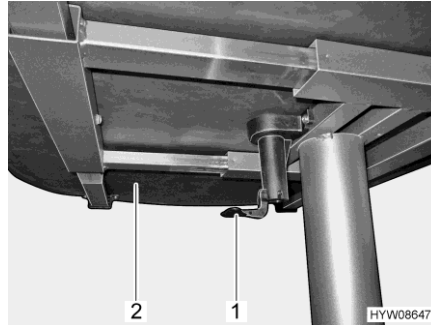

Fig. 43 Lever for moving the table top
- Pull or press down the lever (Fig. 43,1).
- Move the table top (Fig. 43,2) to the desired position.